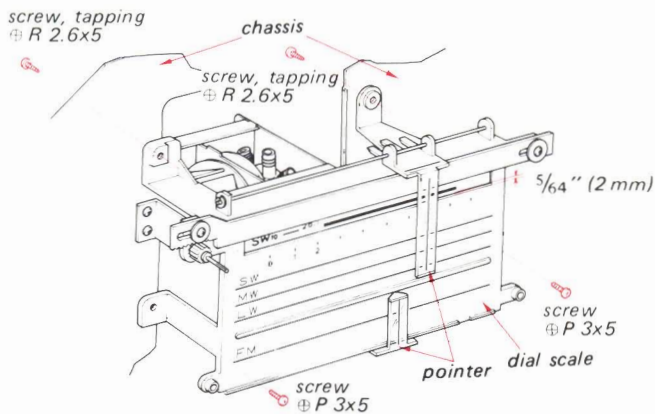

Fig. 2-15
2. Remove the four screws shown in Fig. 2-15.
4. Turn the dial drum so that the drum indicates SW10 and the distance between the dial scale and the line on the drum becomes 5/64 inches (2mm) as shown in Fig. 2-15.